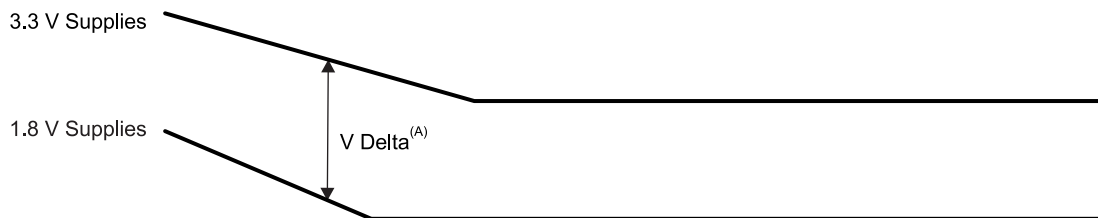

Figure 8-3. 1.8 V Supplies Falling Before 3.3 V Supplies Delta
- (1) The 1.5-/1.8-V DVDD\_DDR[x] and CVDD, CVDD\_x variable supplies can be powered down prior to or simultaneously with the 1.8-V supplies.
- (2) The 3.3 V supplies **must** never be more than 2 V above the 1.8 V supplies (see Figure 8-3).